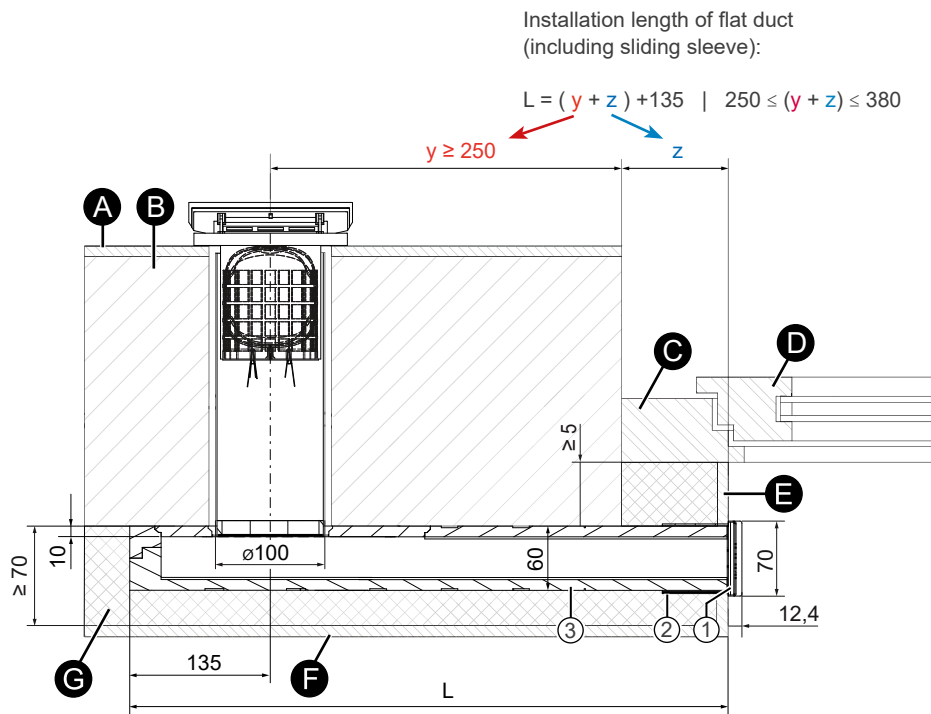

Figure 9: Sectional drawing showing the aV100-ALD Corner ventilation unit (top view) as an example
2) See sectional drawing (12 f., Fig. 9/10)